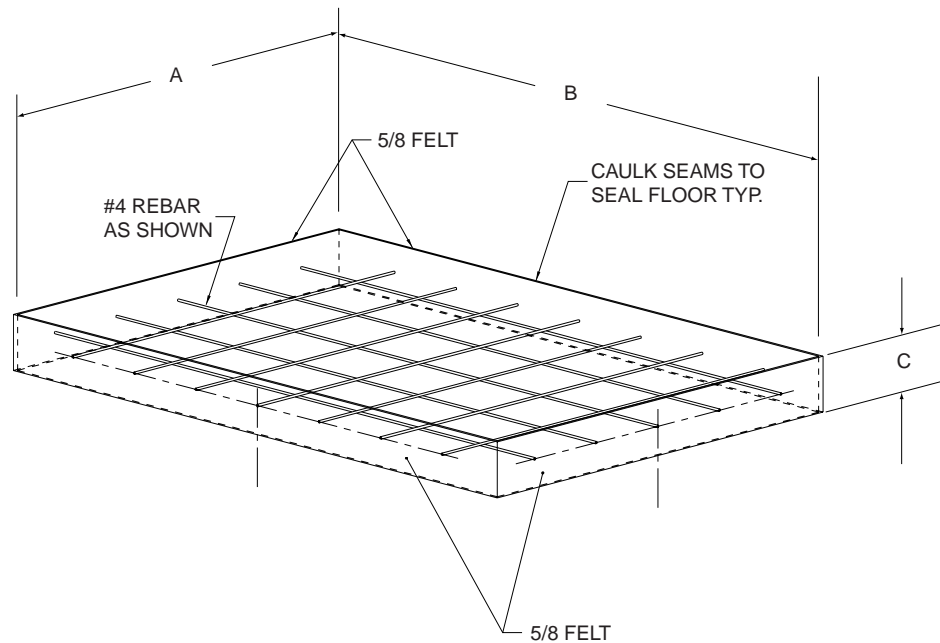

Figure 2-1: Typical Pad Construction
1. It is recommended that most models be placed on a isolated concrete pad 8-12" thick. For VMC 6030 and larger the foundation pad should be 12-15". (Figure 2-1; Dimension C). For A and B dimensions, see *Table 2-1: Isolation Pad Dimensions*.